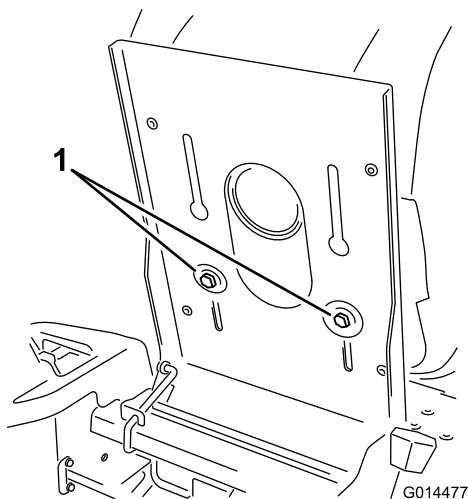

Figure 21
- 1. Raise the seat and loosen the adjustment bolts just enough that seat can move (Figure 21).